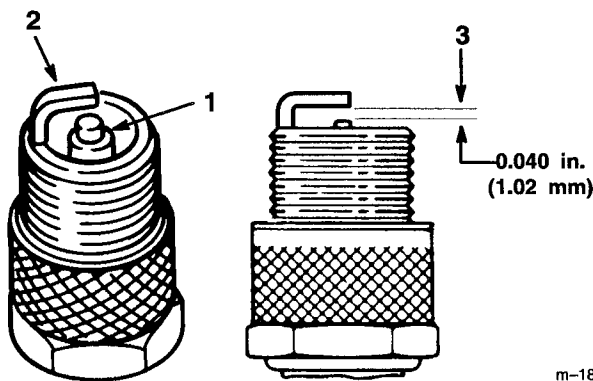

Figure 21
1. Look at the center of the spark plug(s) (Fig. 21). If you see light brown or gray on the insulator, the engine is operating properly. A black coating on the insulator usually means the air cleaner is dirty.
2. Check the gap between the center and side electrodes (Fig. 21). Bend the side electrode (Fig. 21) if the gap is not correct.